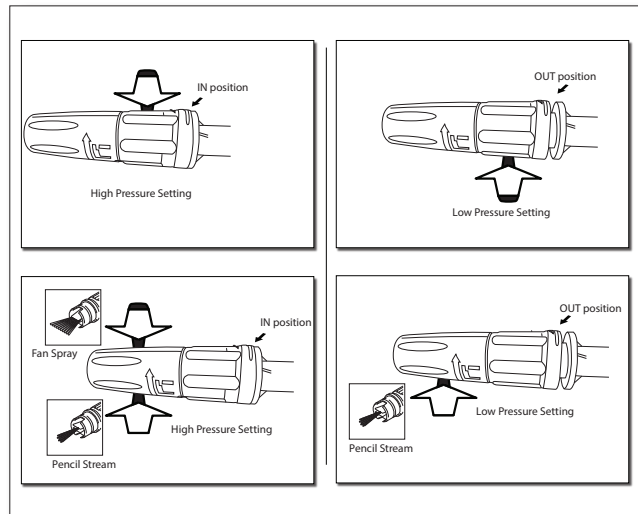

Fig. 10
- The adjustable spray nozzle has two (2) positions (**Fig. 10**):